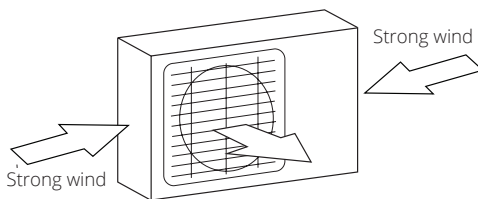

Fig. 5.1
- ✔ If the location is exposed to strong winds (for example: near a seaside), the unit must be placed against the wall to shelter it from the wind. If necessary, use an awning. (See Fig. 5.1 & 5.2)